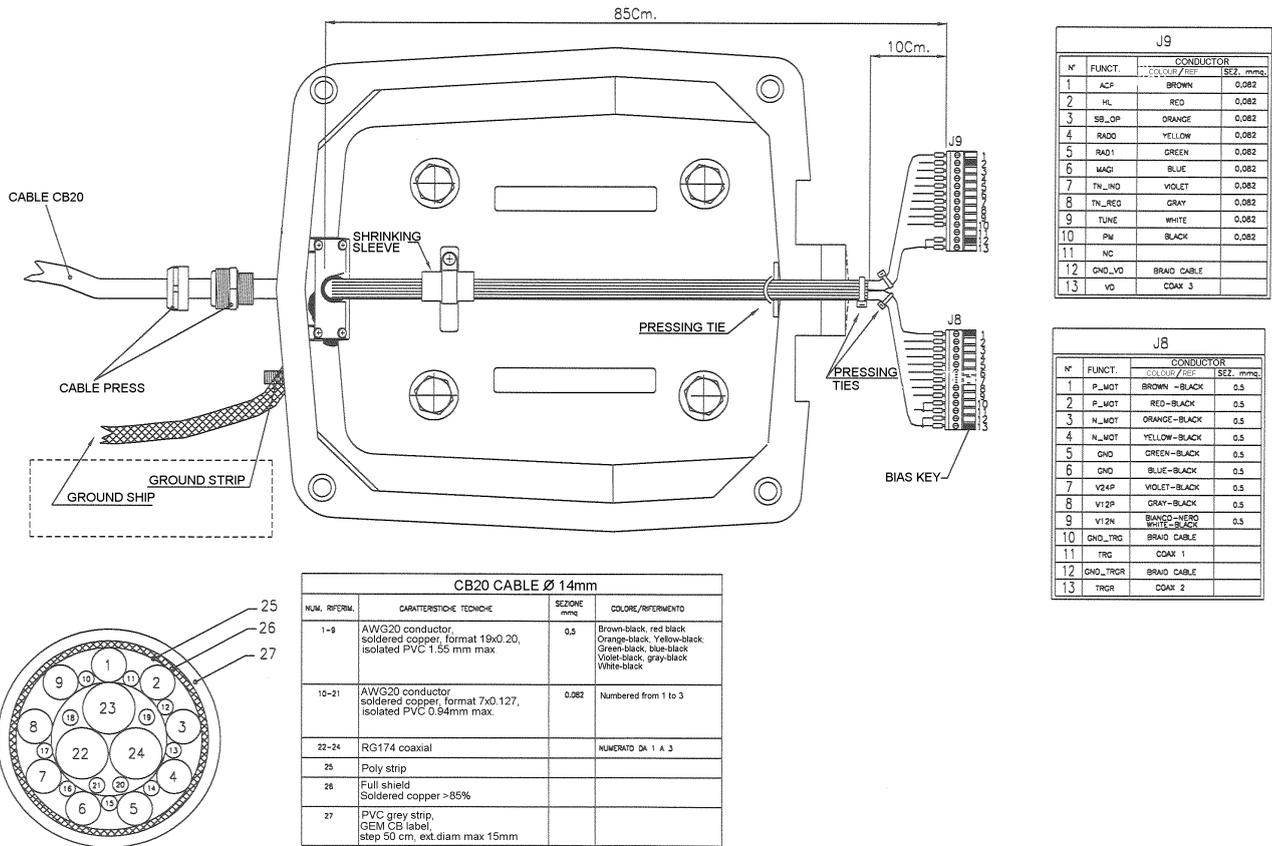

Fig. 3 – CB20 cable heading scanner unit
- Connector HRS 24 p.f.m. (see Fig. 3).